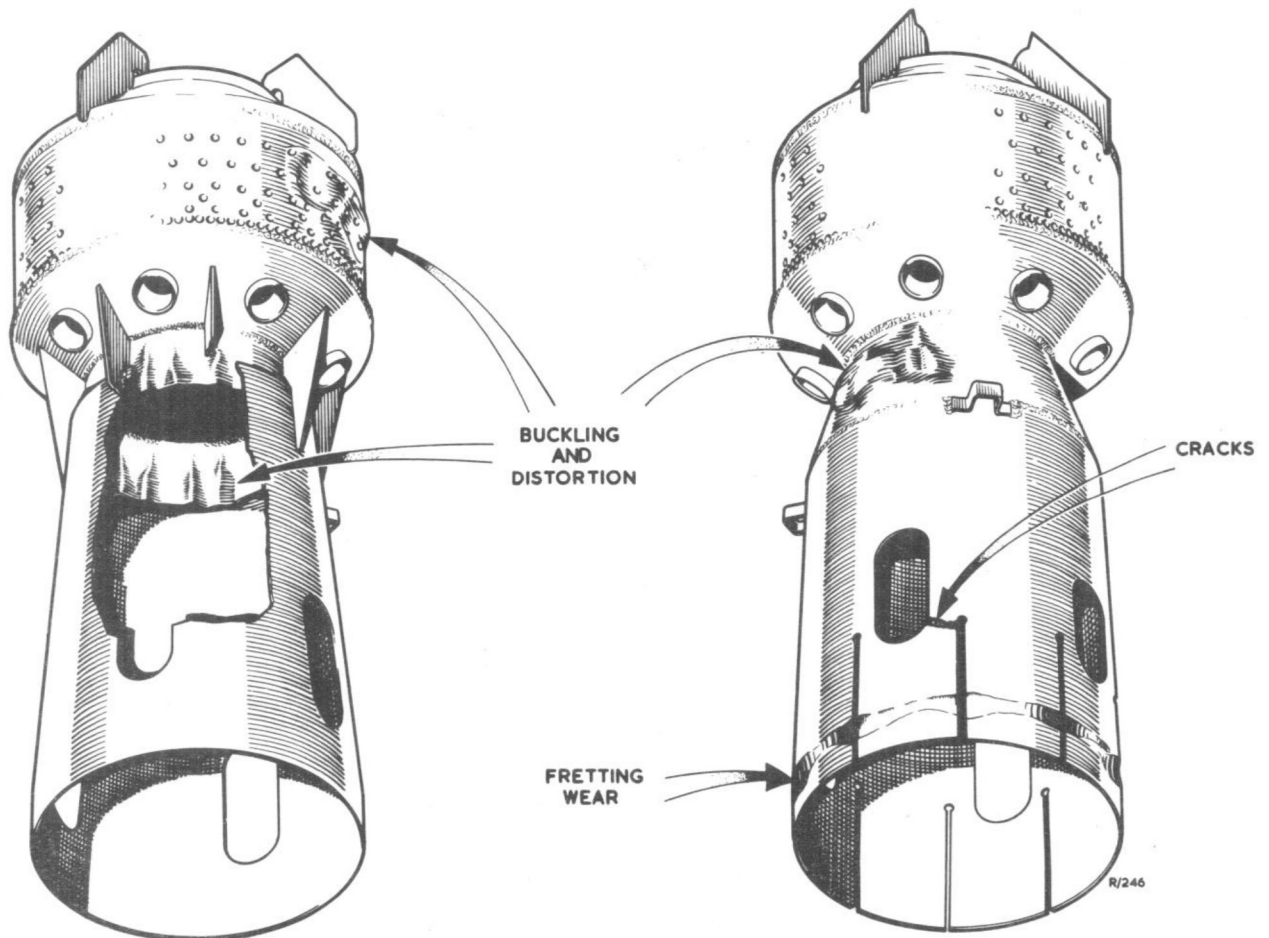

Fig. 6 Unacceptable damage to flame tube
16. Fig. 6 shows the type of distortion or buckling which should be looked for when examining the flame tube. Particular attention should be paid to the primary zone and the necked portion of the tube. It must be emphasized, however, that any degree of buckling will render the flame tube unfit for further service.